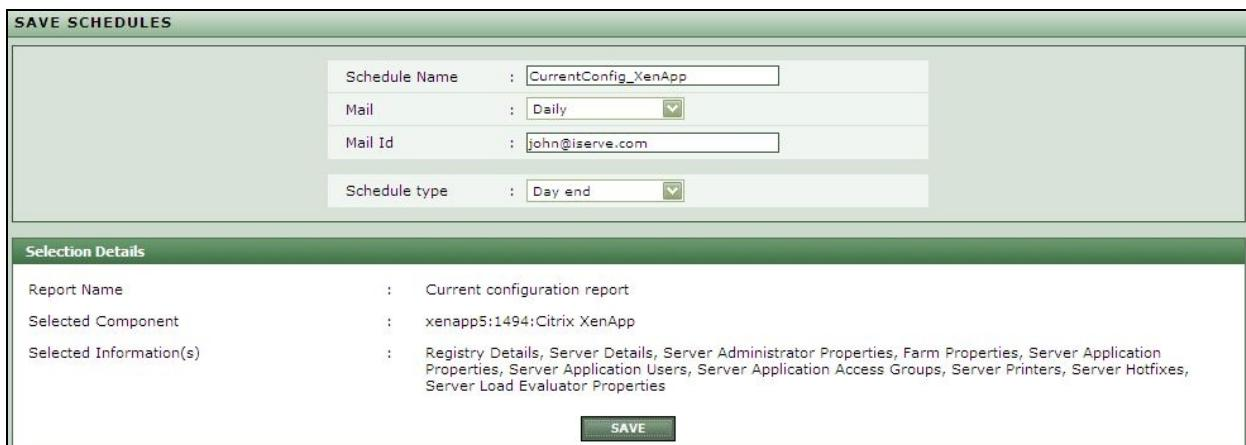

Figure 3.2: Configuring current configuration schedule
1. Provide a name against the **Schedule Name** as shown in Figure 3.2. The name will be validated only if the string ends with _cf.
6. Finally, click on the **Save** button to schedule the report (see Figure 3.2).